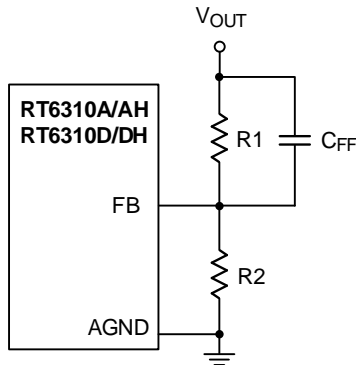
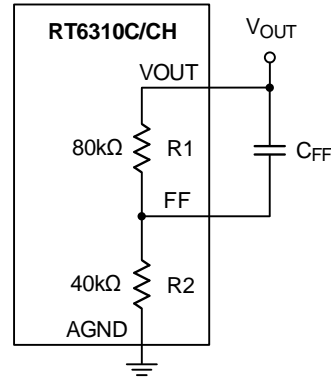
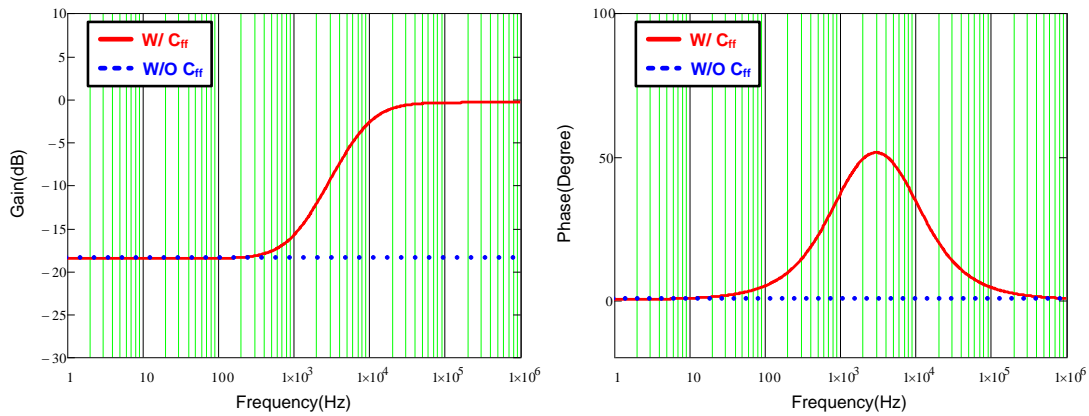

Figure 15. RT6310A/AH/D/DH Feedback Loop with Feedforward Capacitor
Figure 16. RT6310C/CH Feedback Loop with Feedforward Capacitor
Figure 17. Bode Plot with Different Feedback Loop Conditions
To save time for compensator design and to reduce the layout area through external components, the components of compensator are integrated in the IC. However, this integrated compensator might not be suitable for every load transient specification. Hence, to make RT6310 more adaptable, the feedforward capacitor CFF is used in the feedback loop to improve transient response, as shown in Figure 15 and Figure 16. Figure 17 shows the comparison result of bode plot with different feedback loop conditions. Referring to Figure 17, through connecting a CFF in feedback network, the gain and phase are raised in mid-frequency, which not only extends the bandwidth, but also boosts the phase margin. Moreover, there is also a high frequency pole to eliminate high frequency noise. Consequently, those features of feedforward feedback
According to Figure 17, the maximum phase boost that occurs between zero and pole frequencies is defined as maximum phase boost frequency, as expressed in equation (4). Hence, in order to achieve the maximum phase boost by adding CFF in the RT6310, the system's